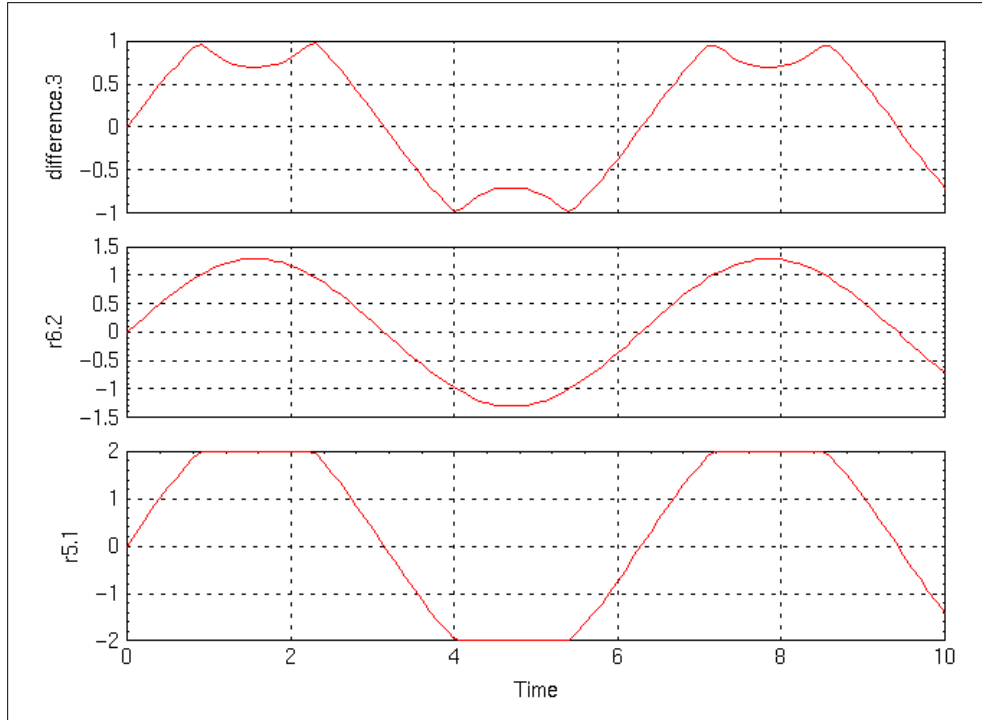

FIGURE 15-19 Plot of Gain Radix Positions with Overflow.
4. The plot should look like Figure 15-19 on page 15-37.
Observe what is happening. The new gain value, which is a fixed-point number approximately 2.6 (actually 2.59375), when multiplied by the numbers from the u-vector (sine wave) at its extremal values, produces an overflow in the block whose datatype is SB6 and therefore whose range is [-2: 1.984375]. The other block, whose datatype is SB5, has a range close to [-4: +4], and therefore does not overflow at these values. You can see the effect of overflow clearly enough by looking at the bottom strip in Figure 15-19, and you can see the approximate amount of the overflow in the top strip.